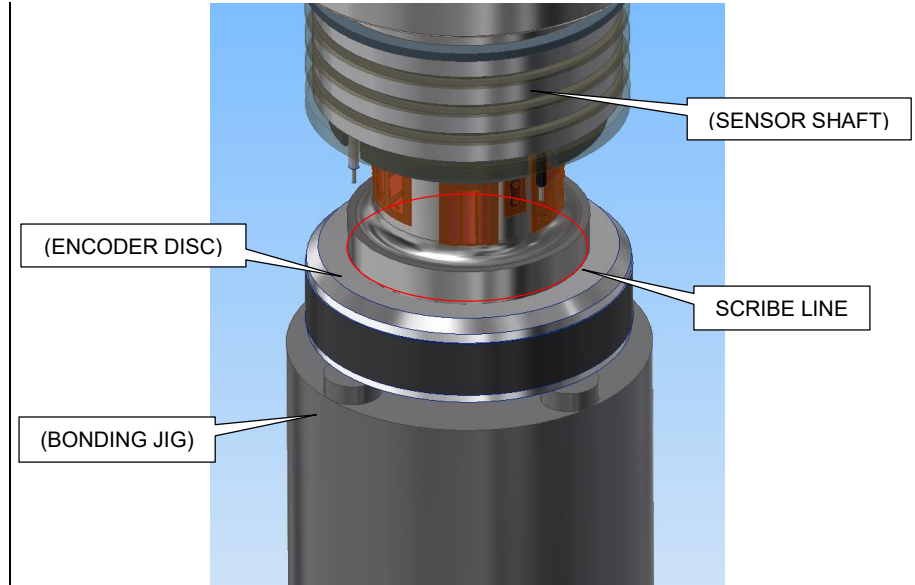

Figure 1
- 1) Slide the ENCODER DISC over the SENSOR SHAFT with the open end of the DISC down (towards the SQ Drive). Set the SHAFT and DISC Assembly onto the BONDING JIG. Reference Figure 1
- 2) Scribe or draw a line at the top of the ENCODER DISC. Reference Figure 1